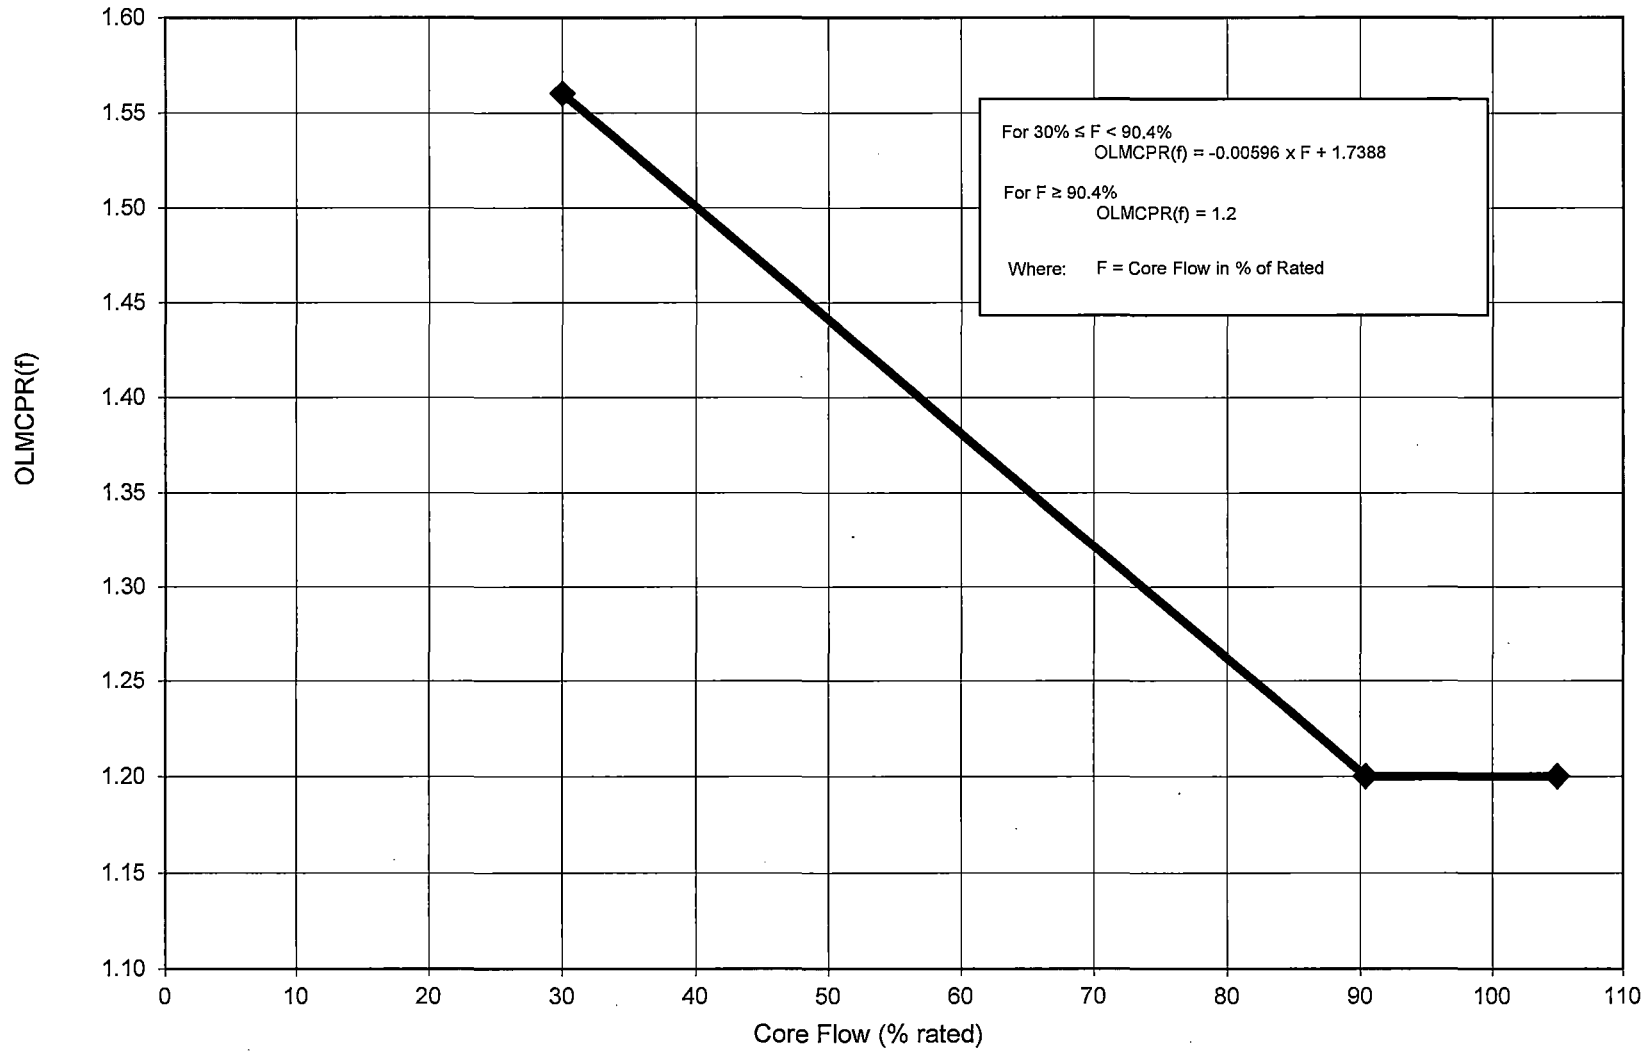

Figure 6
- i) The applicable flow-dependent OLMCPR determined from Figure 6, or